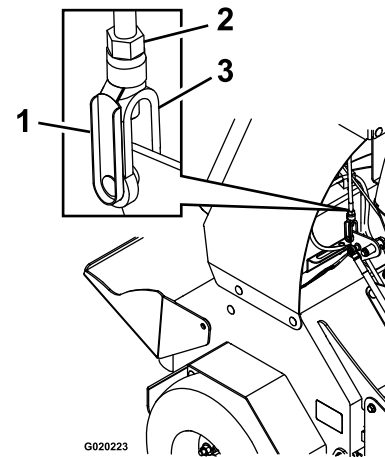

Figure 59
- B. Remove the spring-clevis pin from the fork fitting of the traction-control linkage (Figure 59).
- If the control lever **contacts the reference bar**, rotate the fork fitting (Figure 59) counterclockwise (as viewed from the top of the machine).
- If the gap between the control lever and reference bar is **larger than 1.6 mm (1/16 inch)**, rotate the fork fitting (Figure 59) counterclockwise.
- D. Install the spring clevis pin (Figure 59) and move the control lever forward.
- F. Remove the spring-clevis pin, rotate the turnbuckle clockwise 1 additional turn, and insert the spring-clevis pin (**Figure 59**).